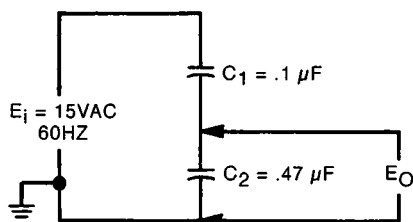

Figure 3-51
1. Construct the experimental circuit shown in Figure 3-51. Connect the capacitors together on the main breadboarding area, then use hook-up wire to connect them to the 15 VAC 60 Hz line source and ground. You can use the oscilloscope or AC voltmeter to measure voltage in the following steps.
3. Use the values in Figure 3-51 to compute the voltage division ratio. Record this value in the space below:
The output of the capacitive voltage divider in Figure 3-51 is some fraction of the input voltage. This fraction is referred to as the voltage division ratio and is a function of the sizes of the capacitors in the circuit. The voltage division ratio for this circuit is: